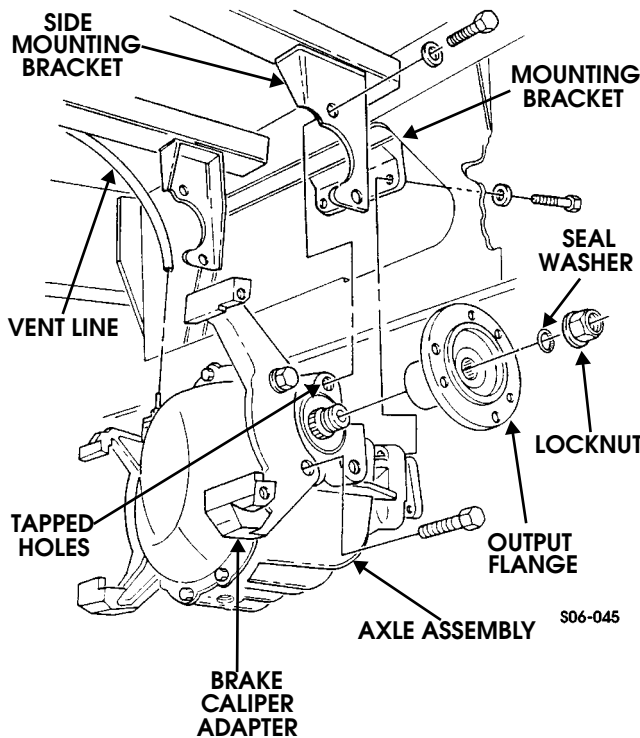

Figure 9-57: Rear Axle Assembly Installation
3. Apply thread-locking compound to axle assembly tapped holes. Secure two brake caliper adapters to axle assembly with four bolts. Tighten bolts to 110-140 lb-ft (149-190 N•m) (Figure 9-57).